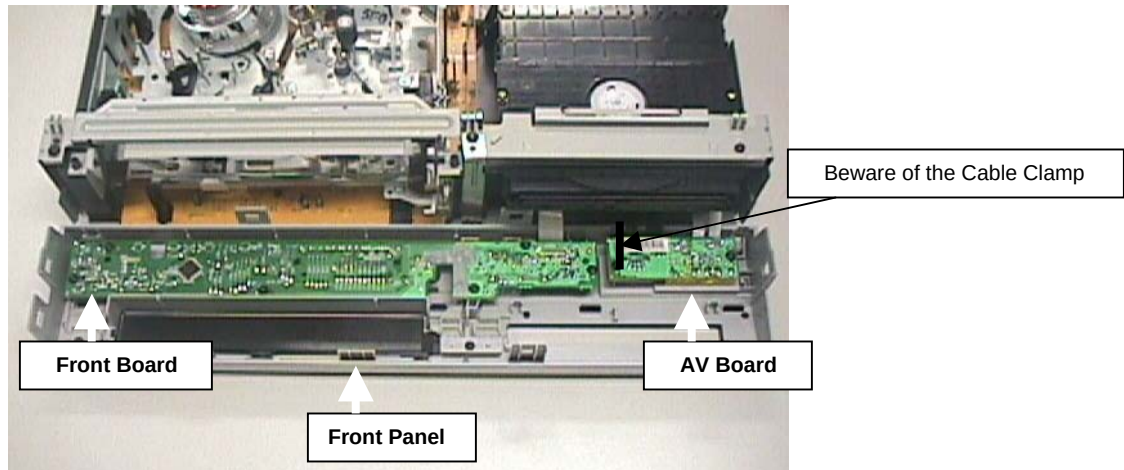

Figure 3 - Front Panel Service Position
- 2) Release the catches and detach the Front Panel. The Front Panel service position is shown in Figure 3.